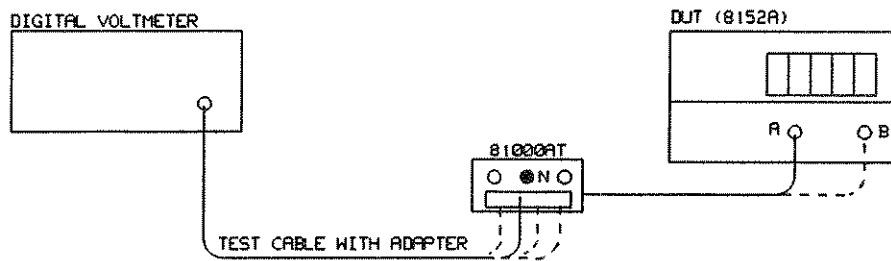

Figure 4-1
1. Connect the equipment as shown in Figure 4-1 and set the toggle switch on the 81000AT Test Box to NO position.